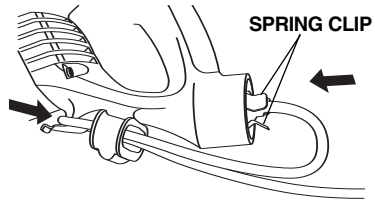

FIG. 6
3. Push end of plug through spring clip and into female outlet in handle as shown in figure 6.